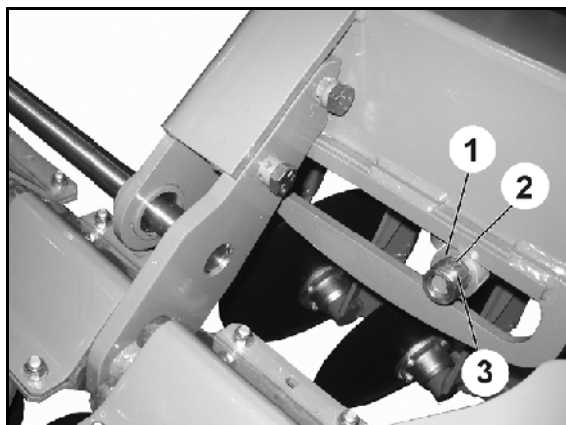

Fig. 56
To replace the roller (Fig. 56/1), place the folded-out machine down so that the roller is free from tension.
1. Release screw union (Fig. 56/2).
2. Withdraw sleeve (Fig. 56/3).